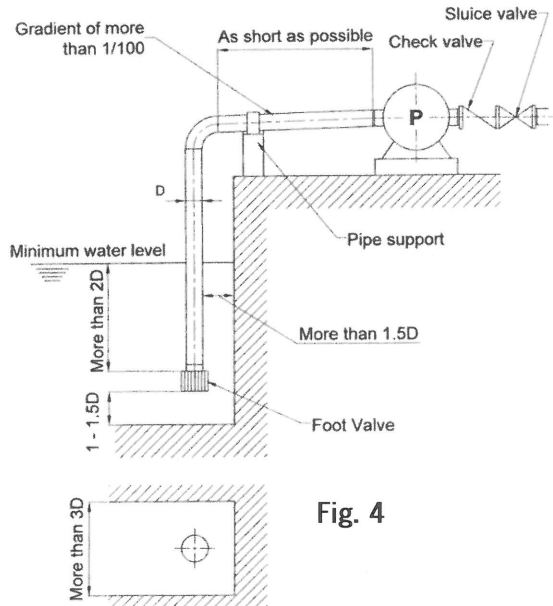

Fig. 4
- (1) Install a foot valve at the end of suction pipe and connect the pipe as shown in Fig. 4. The foot valve must be ordered separately.
- (2) Connect horizontal portion of pipe with a gradient of more than 1/100 toward pump, as shown in Fig.4.
- (3) Ensure that flange does not permit air intake.